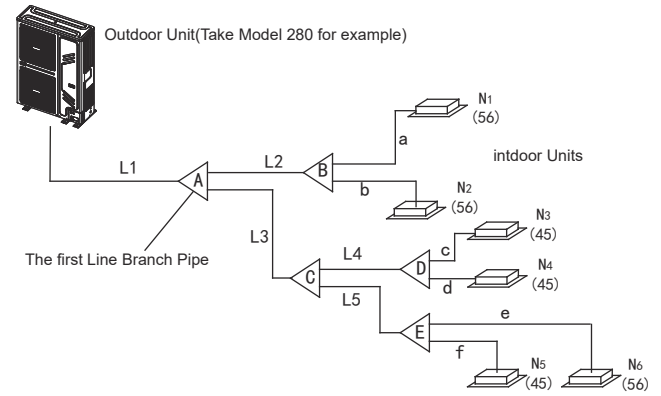

Fig. 4-5
- 2) Example 1: In the Fig.4-5, The downstream inner units of the L4, and its total capacity is $45 \times 2 = 90$, refers to the Table 4.4, the air/liquid side of L4 is: $\Phi 15.9/\Phi 9.5$.